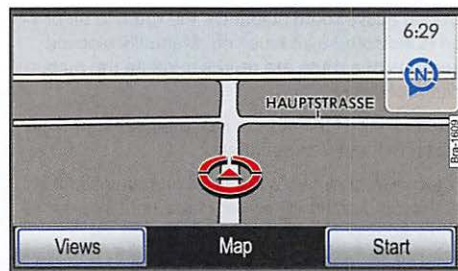

Fig. 66 Interrupted route guidance.
- Press the **Start** button in the Map view ⇒ fig. 66 or in the **Navigation** main menu ⇒ fig. 59 to continue route guidance to the last trip destination. <